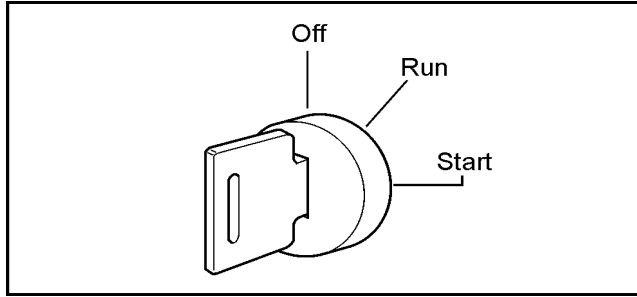

Figure 3-3. Ignition Switch.
1. Place the gearshift in the neutral (N) position.
4. Turn the key to the "START" position. (See Figure 3-3).